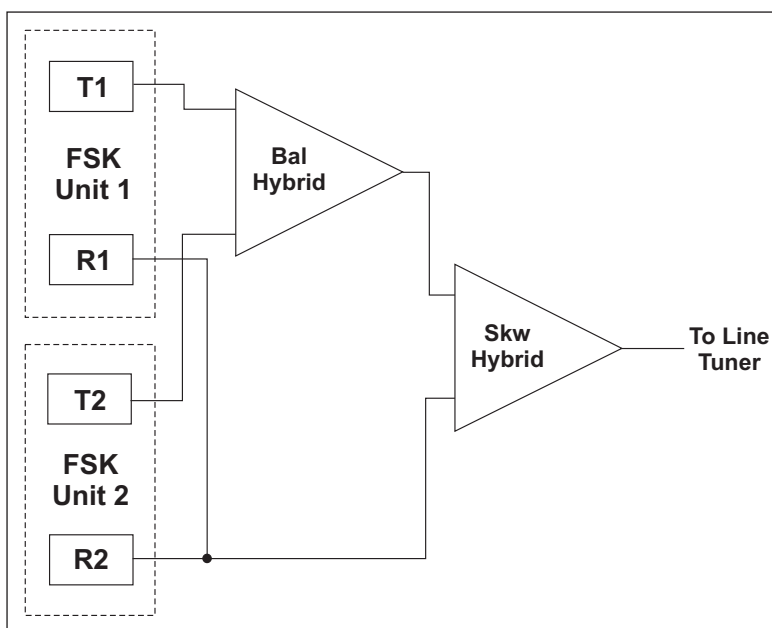

Figure 7-3. Dual FSK Bi-Directional Channel.
- If possible transmitters used for common applications should be arranged for equal attenuation. For example, it is ideal to have Dual channel DTT Transmitters combined through the same balanced hybrid. (See Fig. 7-3)